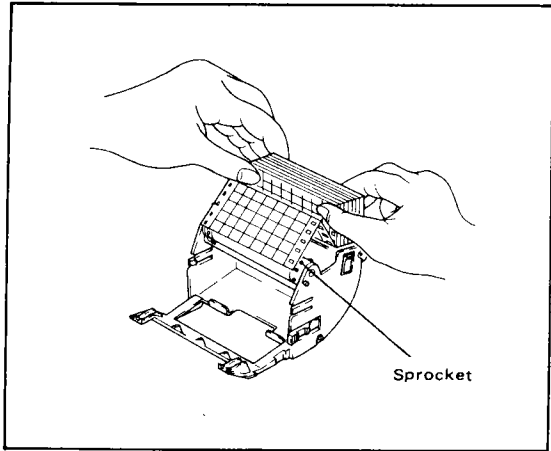

Figure 5-5.
- (6) Load chart paper into the top hopper making sure that the sprocket teeth of the chart drive are properly engaged in the chart paper perforation holes. (Take care not to insert chart paper backwards.) (See Figure 5-5.)